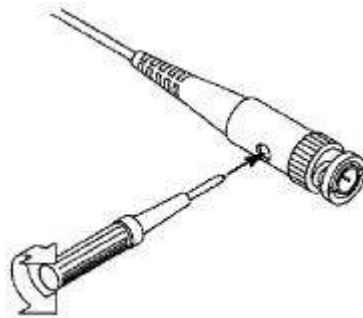

Figure 3-3: Probe Adjustment
2. Check the displayed waveform and adjust the probe until the compensation is correct. See Figure 3-2 and Figure 3-3.